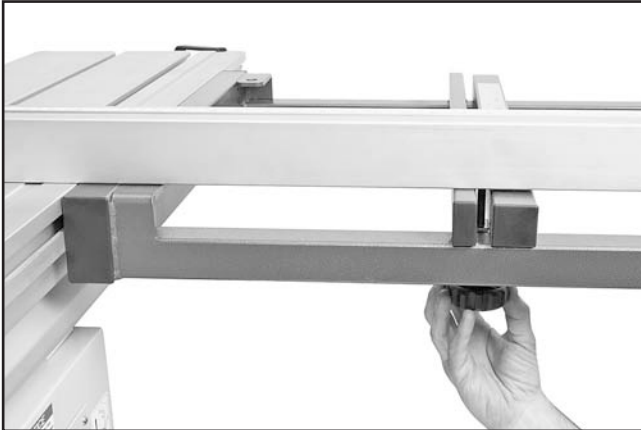

Figure 51. Securing the crosscut fence.
58. Slide the crosscut fence against the 90° stop bolt, then secure it in place by tightening the M8-1.25 knob with the 8mm fender washer on the T-bolt, as shown in **Figure 51**.